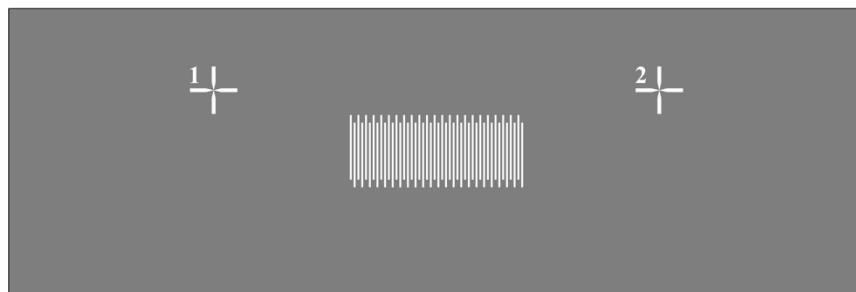

Figure 45 - Free alignment mode
- Click on **Alignment mode** and set the **toggle switch** below to **Free** (Figure 45). Selected drawing will be projected on the sample under green illumination